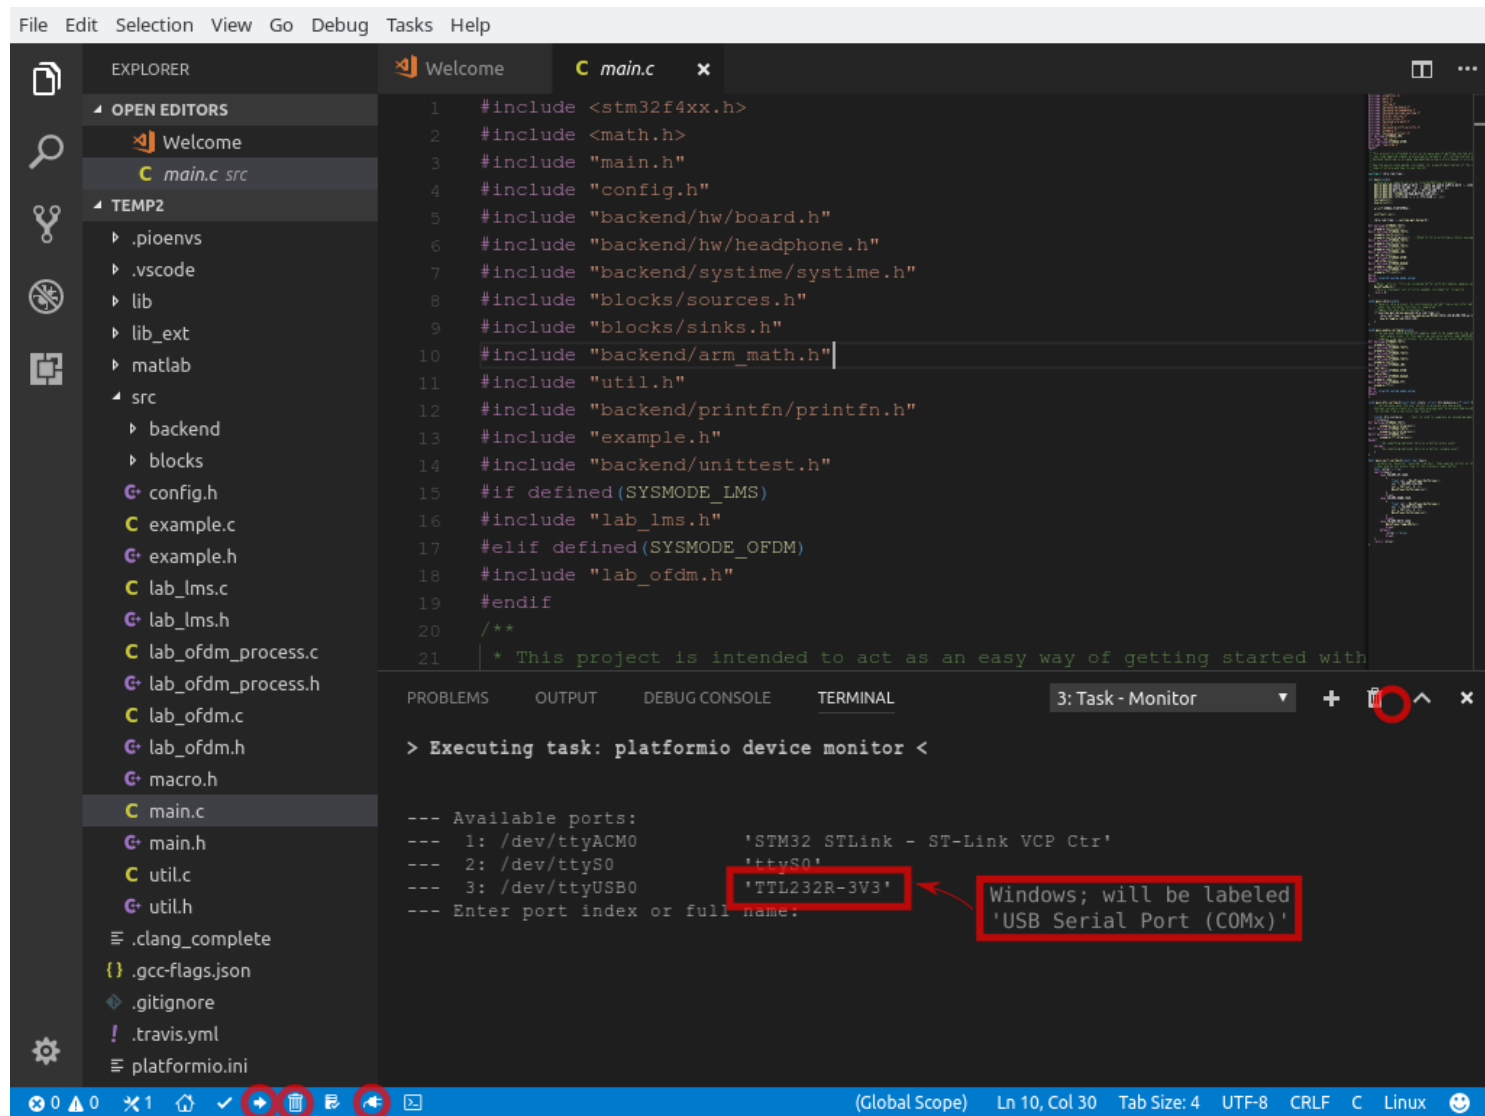

Figure 2: VSCode IDE.
2. The lower blue bar in VSCode should now contain the icons circled in Figure 2. If not, either the PlatformIO extension has not been completely installed or you have not opened the correct directory.
5. Open the serial monitor (the rightmost circled icon in Figure 2), select the correct serial device (labeled `'TTL232R-3V3'` (Linux/Mac) or `'Usb Serial Port (COMx)'` (Windows)), and maximize the serial monitor window.